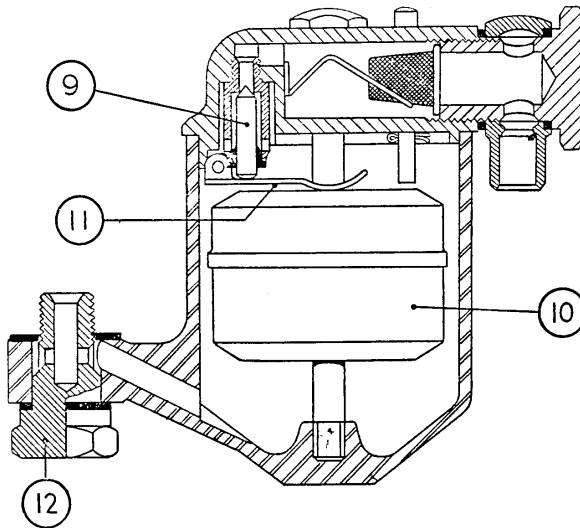

Fig. A.2
The main constructional features of the carburetter in its simplest form are shown in Figs. A.1 and A.2, which illustrate a typical horizontal carburetter. Fig. A.1 gives details of the main body, the butterfly throttle, the automatically expanding choke (generally referred to as the suction piston unit) and the variable jet arrangement. Fig. A.2 illustrates a normal float-chamber assembly.
Turning now to the float-chamber in Fig. A.2, it will be observed to be of orthodox construction, comprising a needle valve (9) located within a separate seating screwed into the casting of the float lid, and a float (10), the upward movement of which in response to the rising fuel level causes final closure of the needle upon its seating through the action of the hinged fork (11). (See Section F.1 for various types of seatings and needles.)